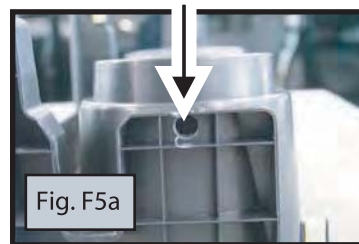

Fig. F5a
-  7. Using previously drilled pilot hole as a guide, Drill a 3/8" hole in cup holder insert to allow light to pass through. (Fig. F5ab) Unibit or step drill recommended.